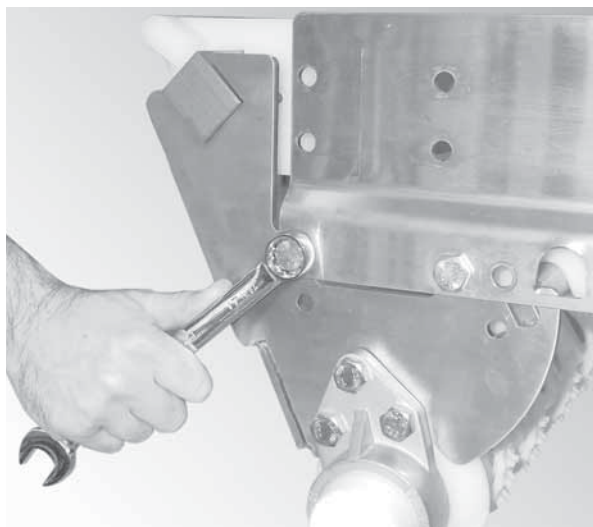

Figure 13
1. Bolt the nose bar drive tail assembly to the conveyor frame (Figure 13).